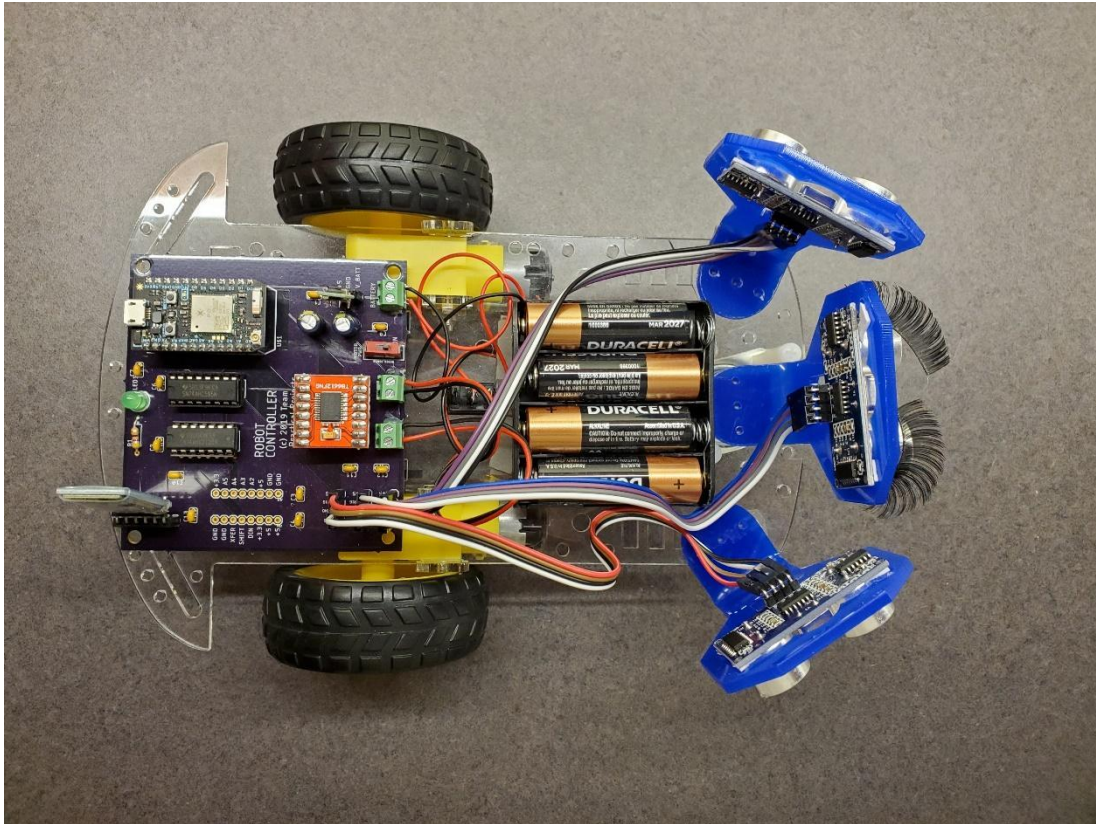
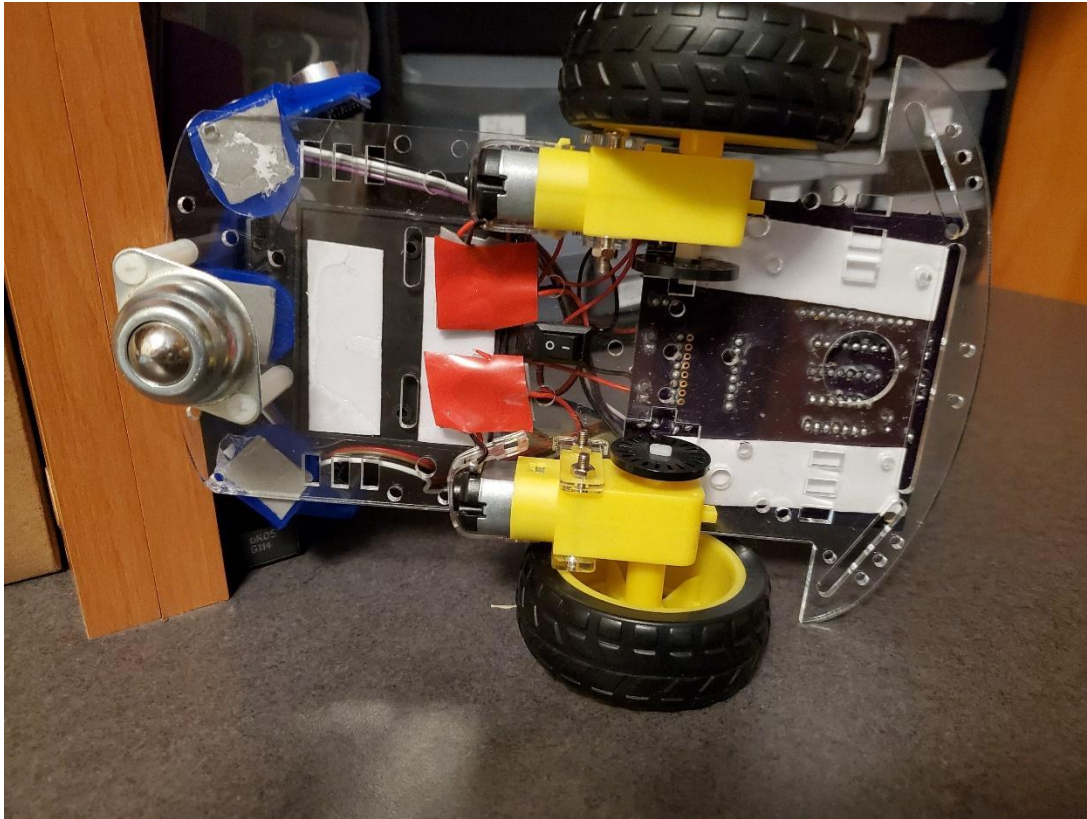
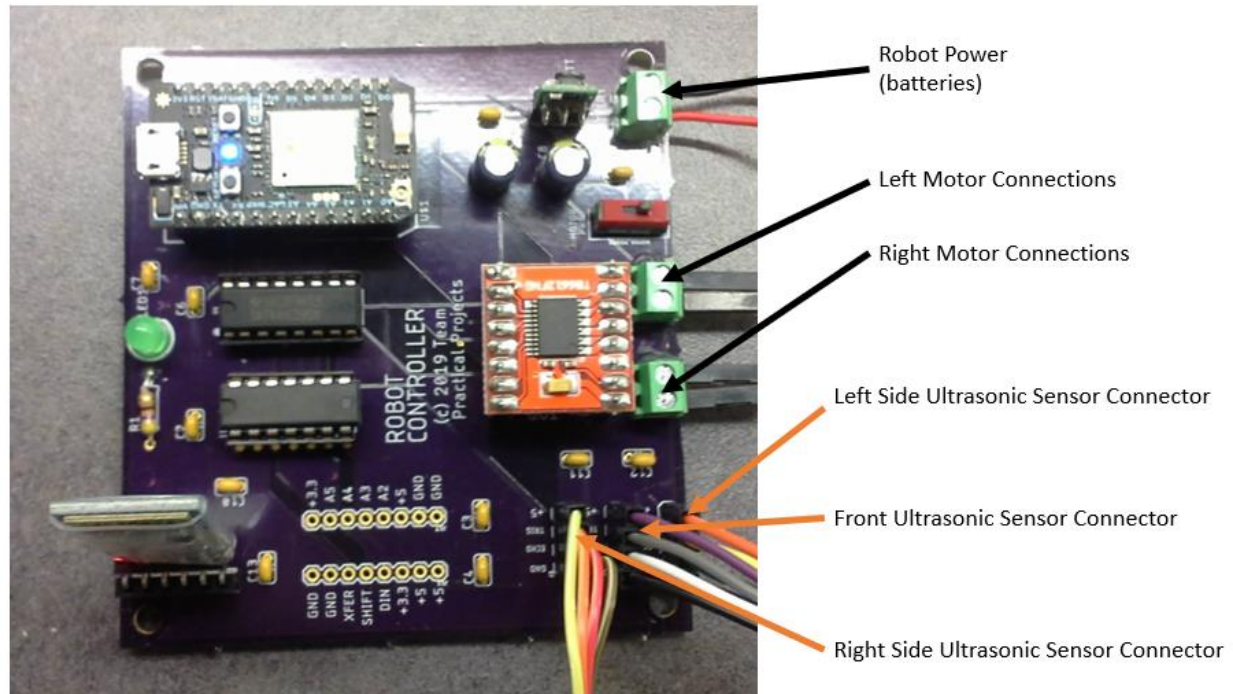

Figure 3-3. Top View of Wired Robot.
Figure 3-4. Bottom View of Wired Robot.
Figure 3-5. Wire Connections to the Robot PCB.
Figure 3-3 is a closeup view of the top of the Robot after wiring is complete. Figure 3-4 is a bottom side view of the wired Robot. Figure 3-5 shows the wire connections to the Robot PCB. Refer frequently to these figures when wiring the Robot.
Figure 3-5 shows the wire connections to the Robot PCB.
Step 2: Motor wiring. You should have soldered wires to the left and right motor terminals when assembling the Robot chassis. Use tape or hot glue to fasten these wires to the underside of the Robot chassis in order to provide mechanical strain relief – see figure 3-4. Thread the wires from the left motor through a hole in the chassis to the left of the power switch so that the wires are now available on the top side of the chassis. Wire these to the LEFT MOTOR terminal block. Do the same with the wires from the right side motor, except that the chassis through hole is to the right of the power switch and the wires are connected to the RIGHT MOTOR terminal block on the Robot PCB. *NOTE: the motor wires are not polarized; however, they do determine the direction that the motor spins. We will test this out when the Robot assembly is completed and if one (or both) of the motors spins in the reverse direction that it should, simply reverse that motor’s wires in the terminal block.* Make sure that the wires are properly placed into the terminal block connections and tighten down the screws on the terminal block to secure these connections.